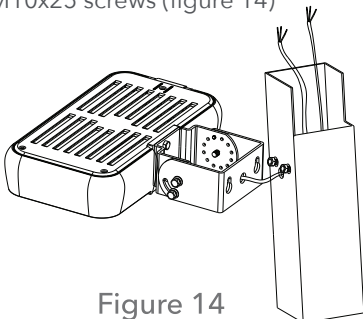

Figure 14
3. Match the screws holes on U bracket to M10x25 screws (figure 14)